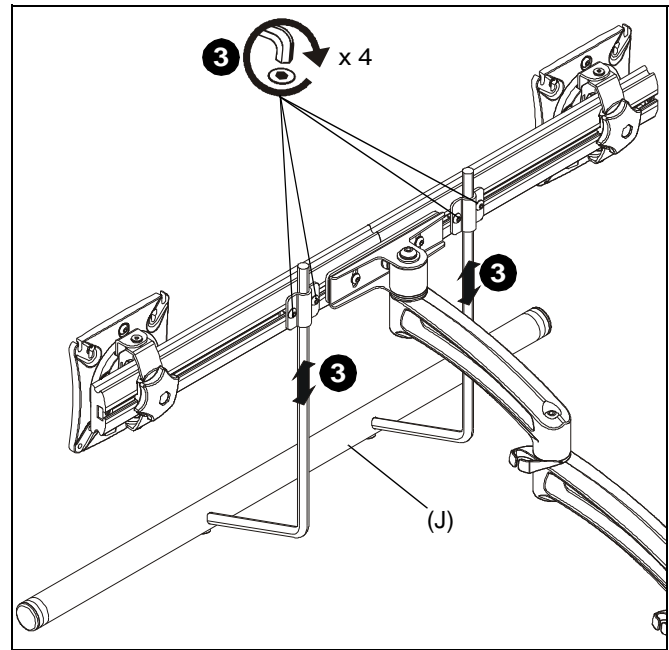

Figure 18
3. Position handle (J) at desired height and secure by tightening button head cap screws attaching handle brackets to array. (See Figure 18)